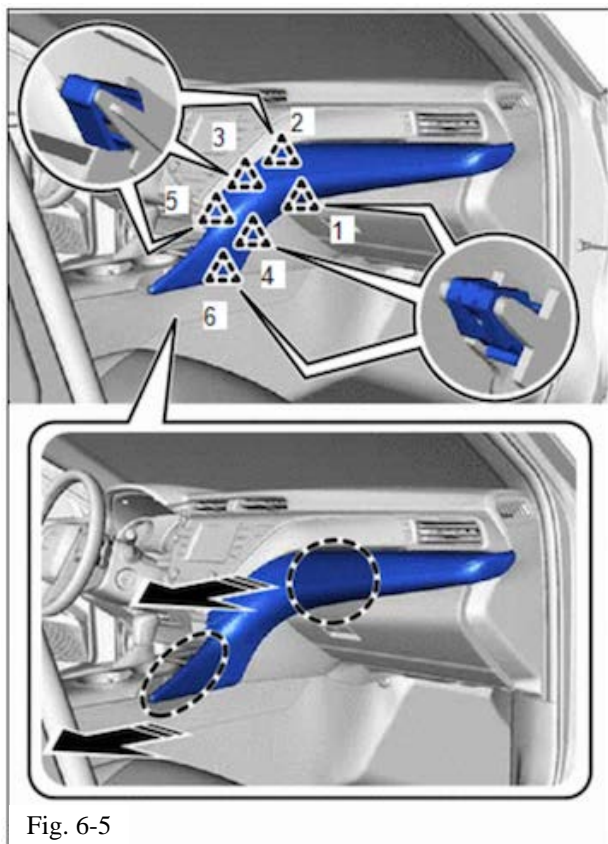

Fig. 6-5
- (2) Disengage the 6 clips in the order shown in the illustration to remove the No. 2 instrument panel garnish sub-assembly (Fig. 6-5).